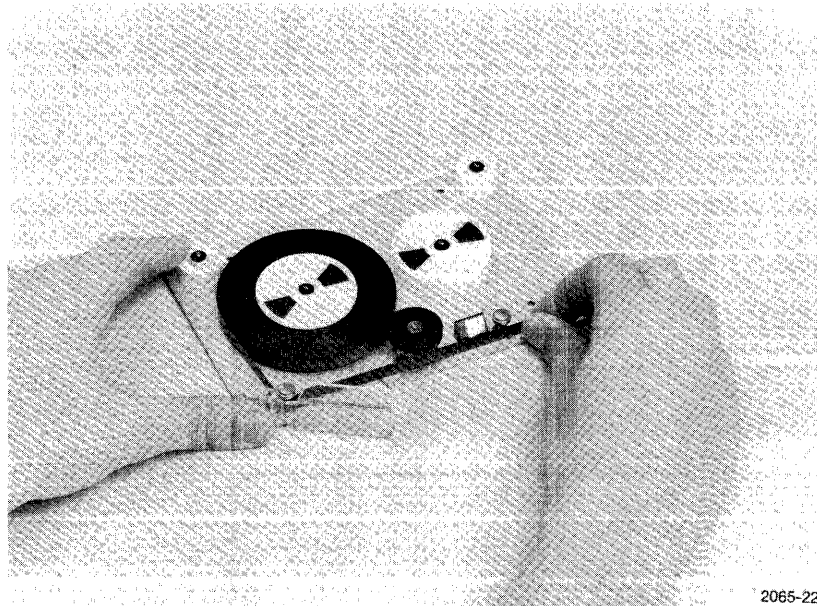

Fig. 3-4. Tape positioning within the cartridge.
3. Place the loose end of the tape across the front of the cartridge, threading it through in front of the two guide posts. Now, keeping light tension on the tape, place the loose end of the tape around the outside edge of the take-up spool, to the point where the spool meets the tension band (Fig. 3-4).